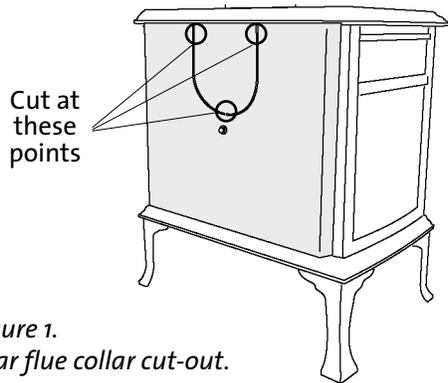

Figure 1.
1. Using tin snips, cut out the panel from the Rear Heat Shield for the Flue Collar to pass through. See **fig. 1**.